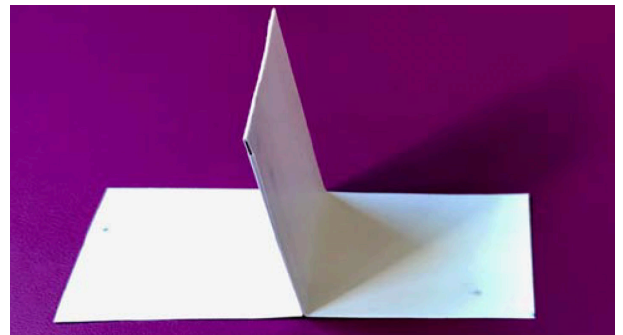

Figure 7: Tape the front and back of vertical stabilizer (the part that sticks up).
- Tape the crease in place so that it sticks up. Let the two outer panels lay flat. See Figure 7.